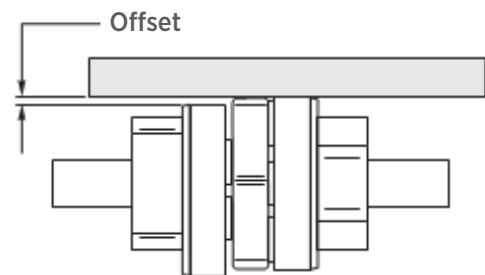

FIGURE 17: PARALLEL ALIGNMENT
10. Check parallel alignment by placing a straight edge across the two coupling flanges and measure the maximum offset at various points around the edge of the coupling flanges without rotating the coupler flanges. If the maximum offset exceeds .100 inches, realign the shafts. Reference Figure 17.